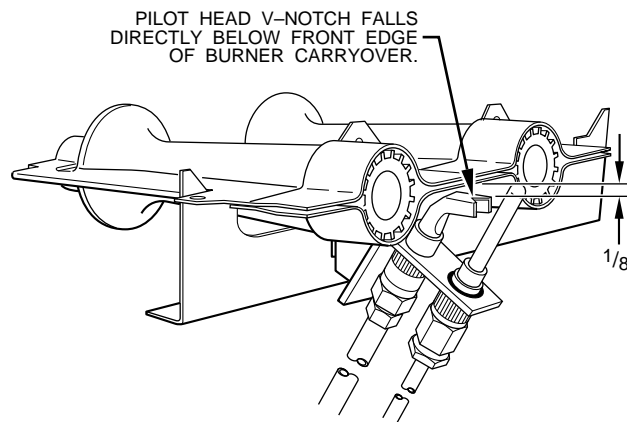

Fig. 3—Position of Pilot to Burner
9. Reinstall pilot gas supply tube on pilot. When tightening pilot tube, use backup wrench and turn pilot so that it will be at the same angle as before. (See Fig. 3.)
6. Reinstall main burners on manifold. Burners should be installed left to right to ensure proper alignment of the burner cross-over slot. (See Fig. 3.)
7. Reinstall pilot assembly on burner assembly. See Fig. 3 for proper orientation of burners and pilot.